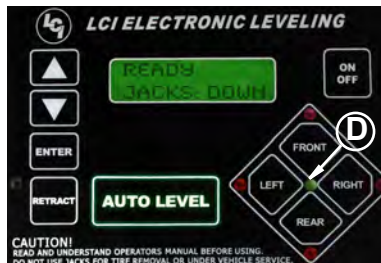

Fig. 3 Touch Panel - Unit Level
7. When auto level is complete, LCD indicates READY - Jacks: Down and the green light in the middle of the jack buttons will light Fig. 3(D).